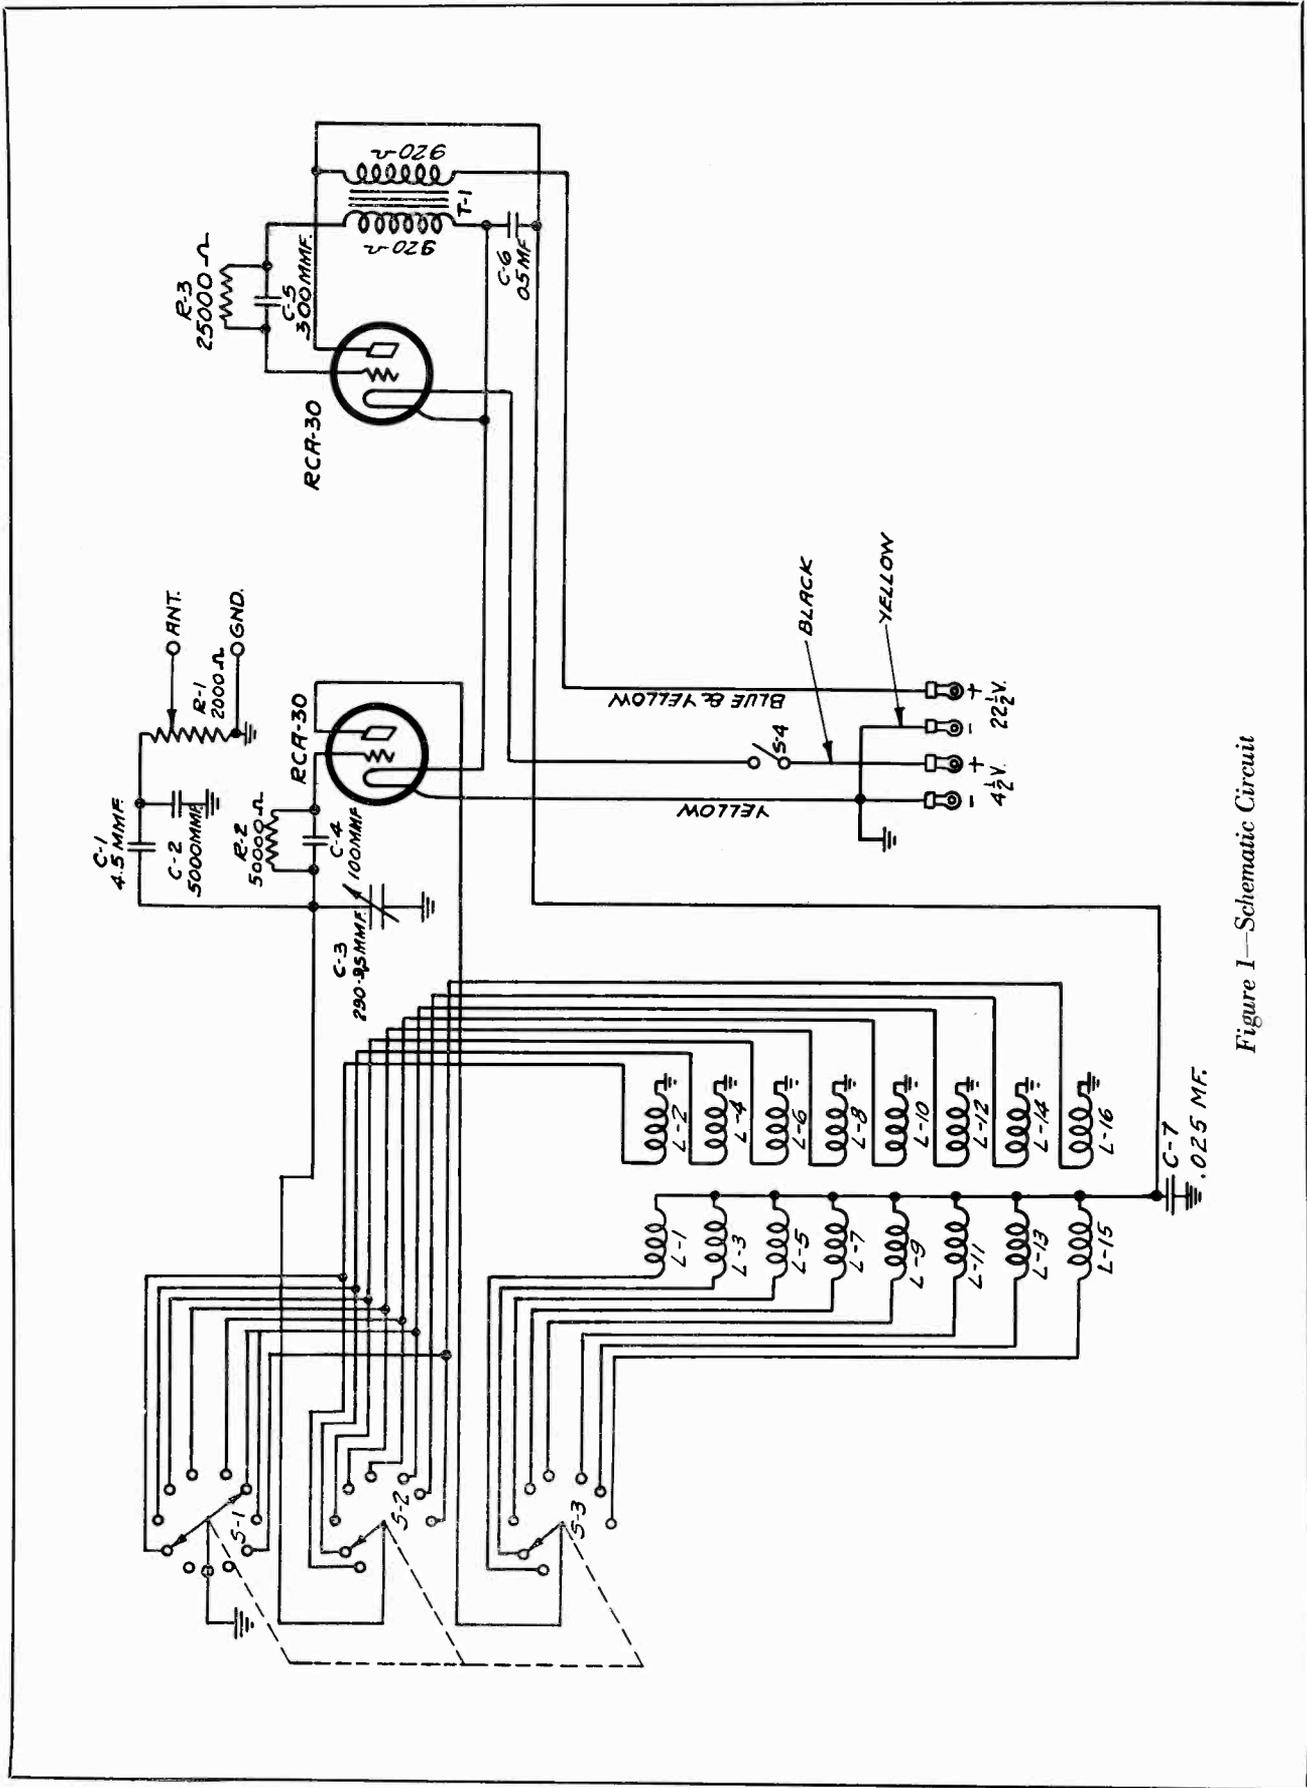

Figure 1—Schematic Circuit
A typical installation of the RCA "World-Wide" Antenna System is shown in the full-page illustration (Figure 1). Although various forms of installation are possible to satisfy space limitations, the arrangement illustrated is convenient and practical and therefore should be used if possible. All parts necessary for this arrangement, except the supporting poles, are supplied.
- 1 or 2 antenna masts with auxiliary apparatus such as the rope halyards, metallic guy wires, pulleys, iron pipes, base blocks and base flanges shown in Figure 1.